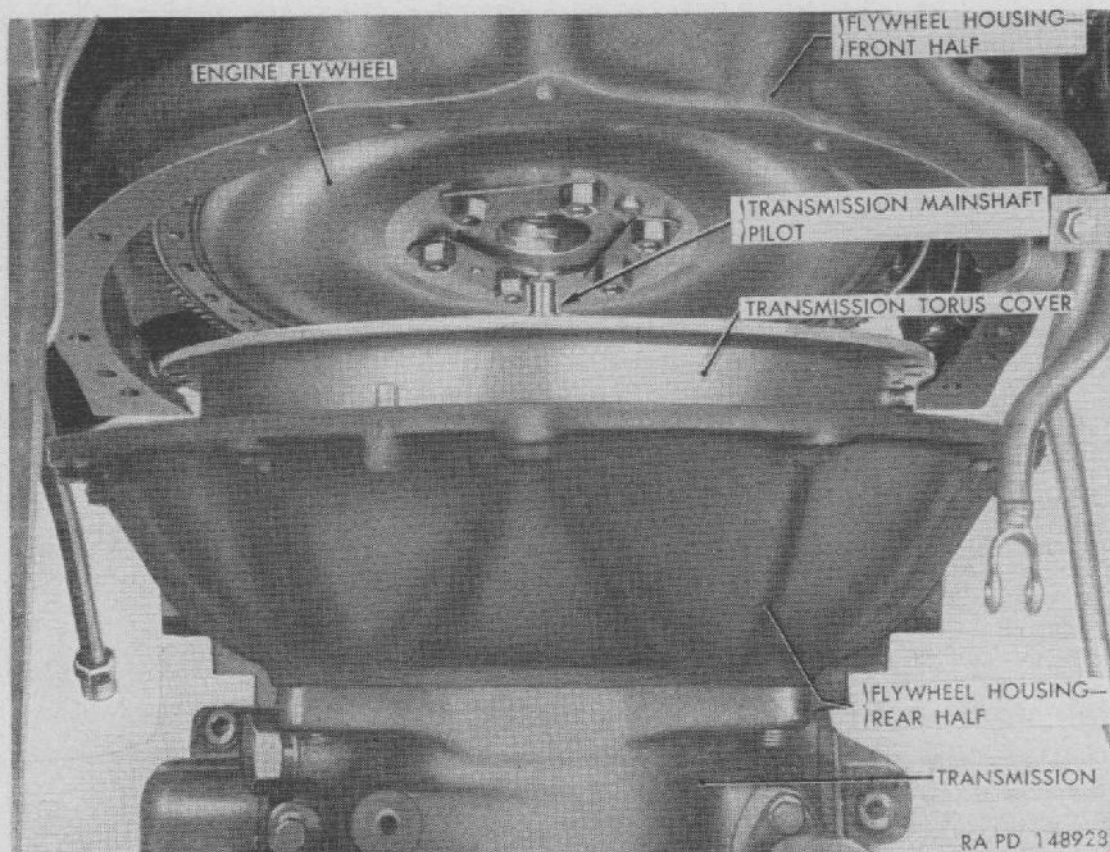

Figure 106. Removing transmission.
- (5) *Remove transmission.* Move transmission assembly away from engine (fig. 106) and mount in repair stand. Remove spacer from front end of transmission mainshaft.
- (2) Use transmission jack and saddle or overhead hoist and raise transmission into position at engine, with pilot on mainshaft alined with pilot bearing (fig. 106); then turn torus cover or flywheel until large dowel in flywheel is alined with large dowel hole in torus cover.
- (3) Move transmission toward engine so mainshaft pilot enters pilot bearing and dowel holes in flywheel housing rear half fit over dowels in housing front half. Install bolts and cap screws which hold halves of flywheel housing together.
- (4) Install torus cover to flywheel cap screws with new lock washers. Tighten all cap screws finger-tight at first. Tighten cap screws at each dowel pin with wrench, tighten screws alternately to avoid distorting torus cover. Finally tighten all screws with torque wrench to 20-25 pound-feet torque.
- (5) Check to see that drain plug in torus cover is tight; then install flywheel housing underpan.
- (6) Connect transmission cooler line at each side of transmission.